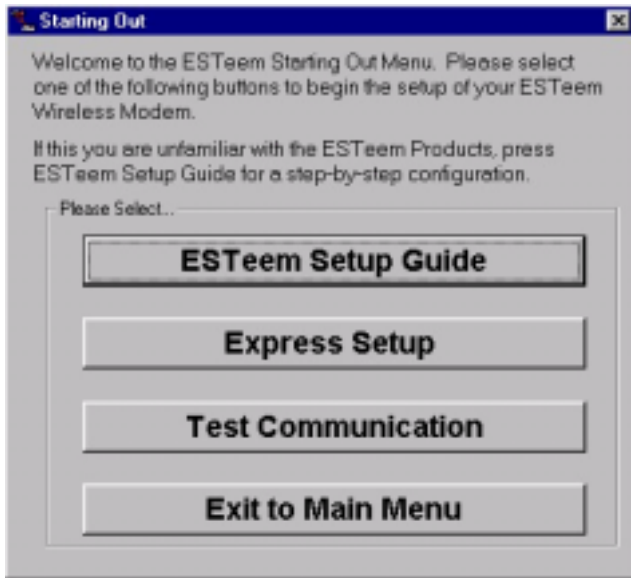

Figure 3: Starting Out Main Menu
1. Select ESTEem Starting Out from the main menu. A window like the one in Figure 3 will be displayed. If this is your first time using the ESTEem wireless modems, select ESTEem Setup Guide for a complete description of all ESTEem functions. Proceed to step 2.
16. Press Complete Setup. You have just configured all operating parameters within the ESTeem. If this is your first ESTeem you have programmed for testing, press the Express Setup button on the Setup Main Menu (Figure 3) to program subsequent ESTeem Modems. The Express Setup will allow you to quickly configure the remaining ESTeem modems without additional instruction. If you have at least